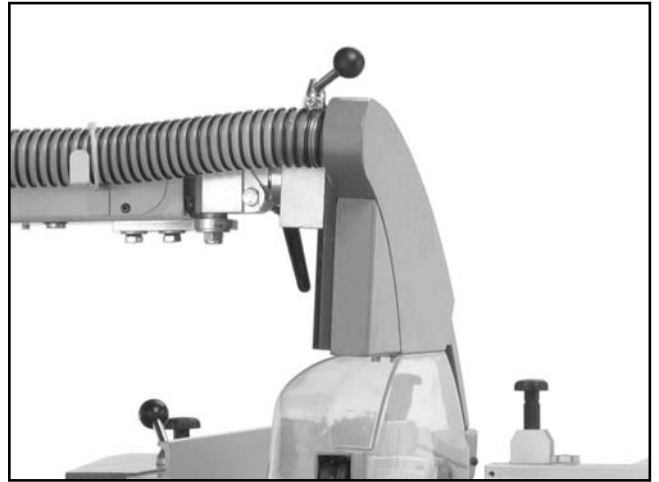

Figure 60. 2" dust port location.
3. Connect a 2" dust hose to the port located above the blade guard shown in **Figure 60**.